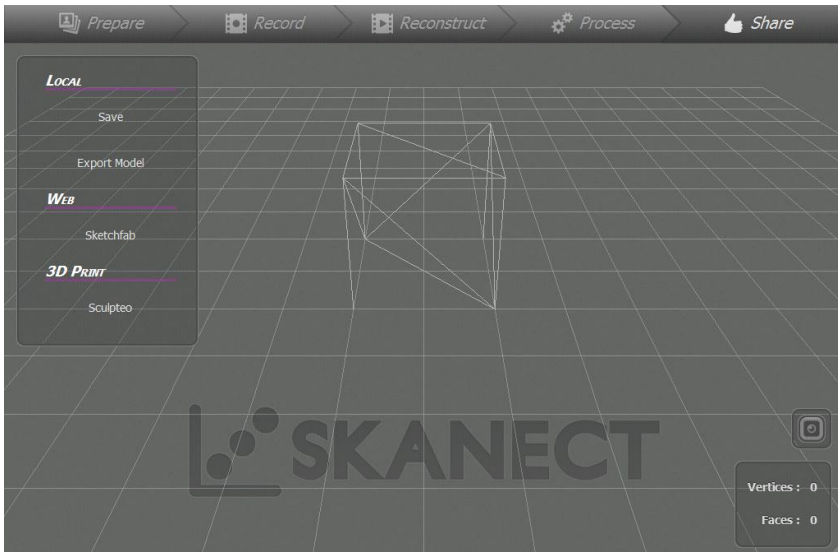

Figure 12: Share Page
25. The model may now be saved under the **SHARE** tab (FIG. 12), and **LOCAL** bar. **SAVE** will allow for the captured images to be stored